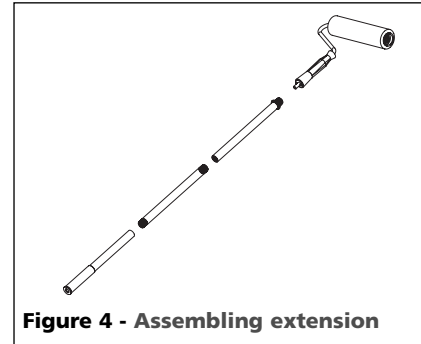

Figure 4 - Assembling extension
5. If using the extension, screw all of the pieces together (see Figure 4). Thread the tubing through the assembled extension. Push the tubing onto the roller frame and secure the frame onto the extension.